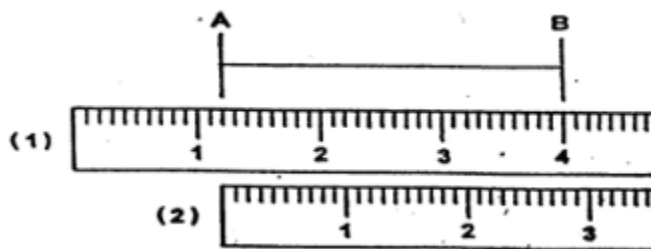

Figure 1: Example of measuring length
**Zero Reading:** Every measurement is really a difference between two readings, although for convenience, most instruments are calibrated so that one of these readings will be zero. In many instruments, this zero is not exact for all time but may shift slightly due to wear or usage. Thus it is essential that the zero be checked before every measurement where it is one of the two readings. In some cases the zero can be reset manually, while in others it is necessary to record the exact zero reading and correct all subsequent readings accordingly. e.g. When measuring the length AB shown in Fig. 1, a ruler could be placed (1) with 1.2 cm at A, then length  $AB = (4.0 - 1.2) \text{ cm} = 2.8 \text{ cm}$ . The more usual ruler position (2) allows the length AB to be read as 2.8 cm directly, but remember this is still the difference between two readings: 2.8 cm and 0.0 cm.